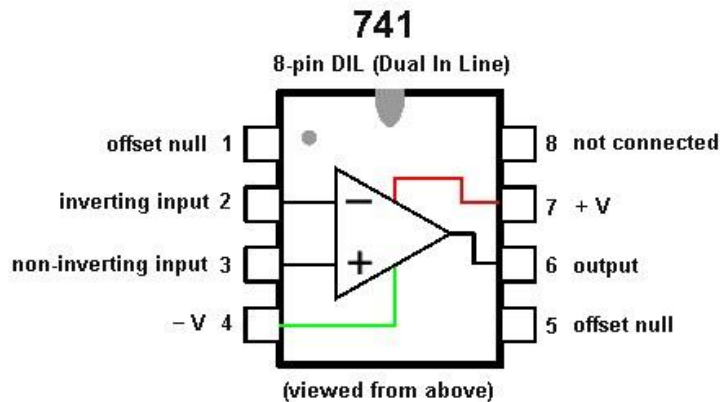

Fig. 1. LM741 op-amp pinout looking at it from above.
Perform the following analyses and calculations before coming to lab. For all circuits in this assignment, assume that the op-amps are ideal and that they use ± 15 V power supplies for biasing. Fig. 1 shows how the op-amp's schematic symbol maps to its physical IC pinout.
- a. Refer to the LM741's pinout drawing in Fig. 1.